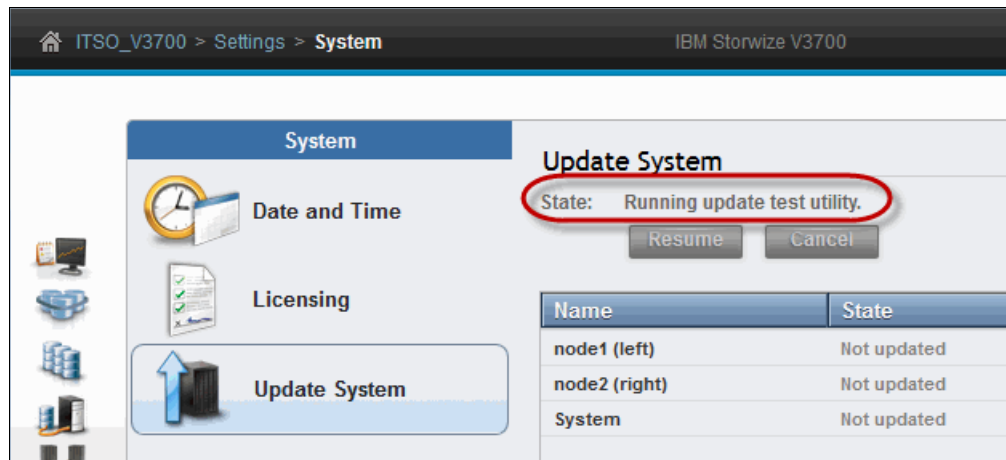

Figure 11-29 Running test utility
8. When the software has been uploaded to the IBM Storwize V3700, the test utility is automatically run, as shown in Figure 11-29.